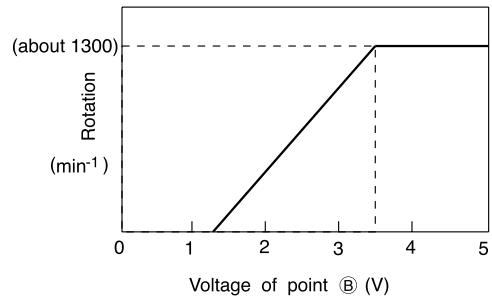

Fig. 6-3
- This pulse changes to analog voltage by R751 and C751 and it is applied to the fan motor as instruction voltage number of rotations. The relationship between the voltage of point (B) and number of rotations becomes as shown in Fig.6-3. (The gap may arise depending on the condition of unit.)